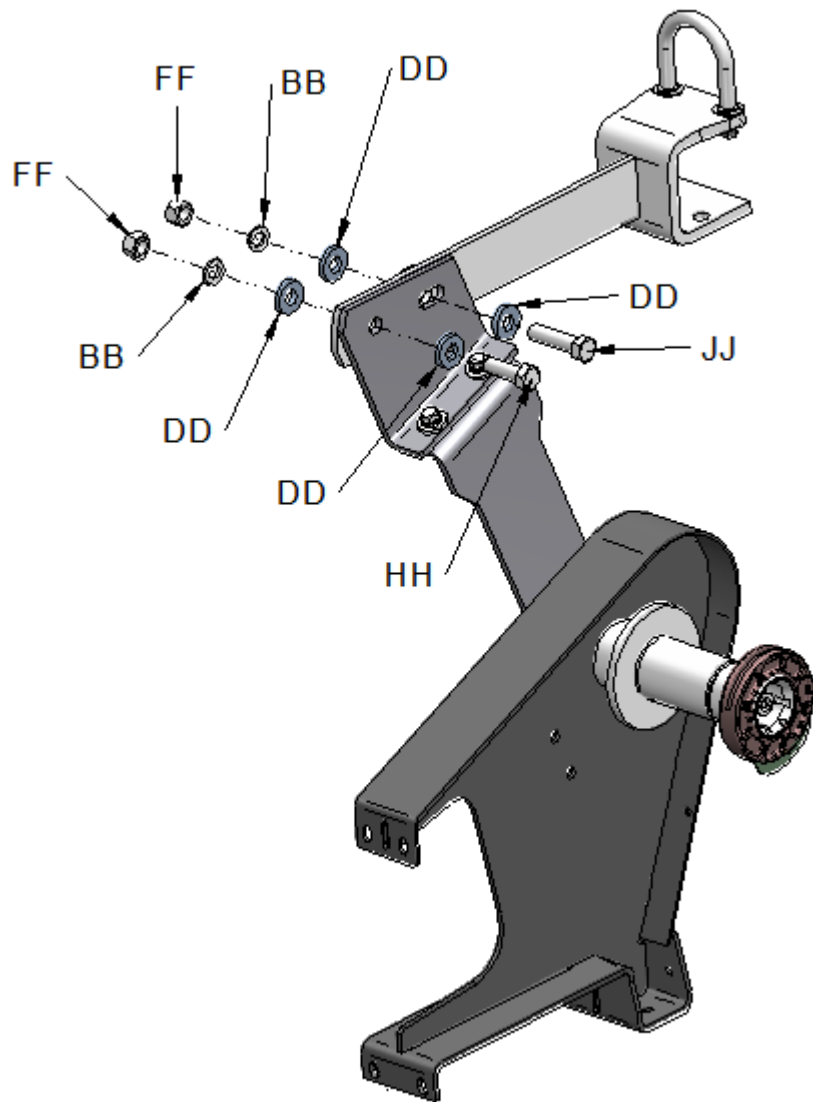

Figure 7
8. Bolt the M26044 Stabilizer Bracket to the flux tank as shown in Figure 7.